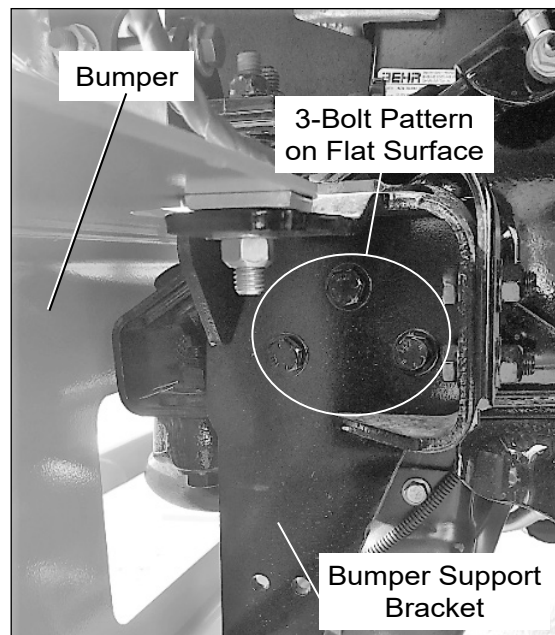

Figure 2 – Steel Bumper Support Bracket
- If the vertical side of the bumper support bracket is flat around the triangular bolt pattern at the top, the bracket is a steel weldment (refer to Figure 2).